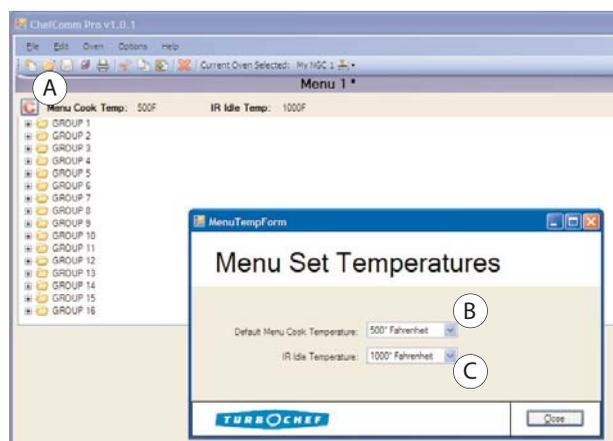

Figure 16: Edit the Cook Temperature
2. Click the Temperature icon (Figure 16, Item A).
3. Set the menu temperature (Figure 16, Item B).
NOTE: If developing a menu for the Tornado, set the idle IR temperature (Figure 16, Item C).